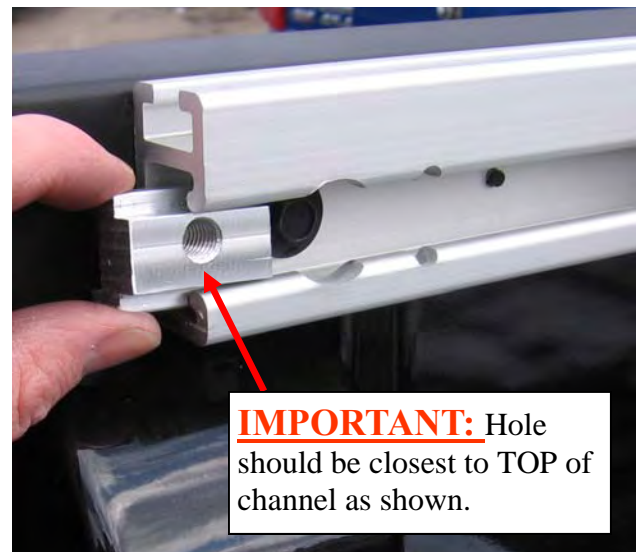

Figure 2—Mounting Cleat Insertion
- Insert (1) mounting cleat (**Figure 2**), into the Utility Rails on each side, position it about 15” from the front of the bed. **Then re-insert the tie down clamps on each side of the bed, before inserting 2nd cleat.**